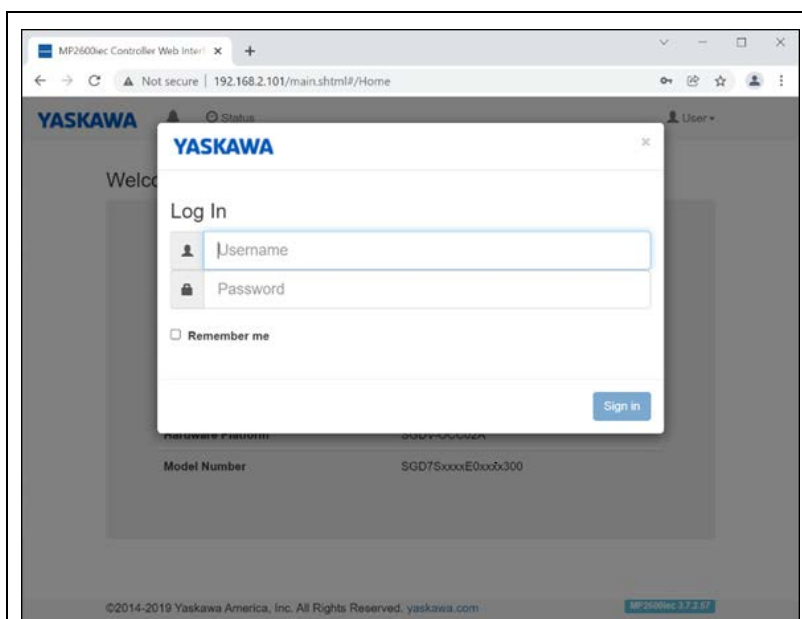

Figure 5-10
- Step 6. Log into the Yaskawa controller. (Refer to Figure 5-10)